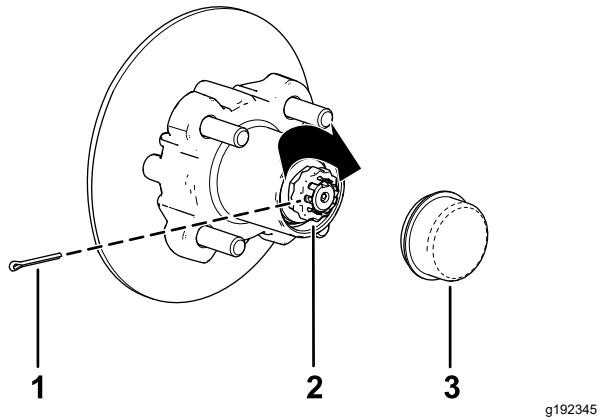

Figure 40
8. Install the retainer over the nut and check the alignment of the slot in the retainer and the hole in the spindle for the cotter pin (Figure 40).
9. Install the cotter pin and bend each legs around the retainer (Figure 40).
10. Install the dust cap onto the hub (Figure 40).